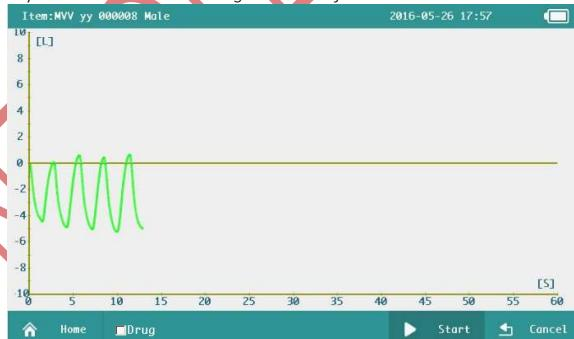

Figure 6-7
(1) On the quick test interface , click the " " button to enter the MVV testing interface , then the user can choose whether to tick the 【Drug】 button according to the condition of the drug being consumed.
(2) Place the mouthpiece on the patient's mouth, inhale and exhale rapidly and constantly for 12 seconds, the system will draw the test result waveform in real-time, as shown in Figure 6-7. Remove the mouthpiece , the system will automatically switch to the case management interface .